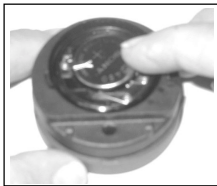

Fig. 66 -INSERTING
- Slide a new 3 volt type CR2450 Lithium Battery, negative (-) side down into the Battery Cavity. Slide it in from the right side and ensure that it slides under the contact clip on the left rim of the cavity (Fig. 66).